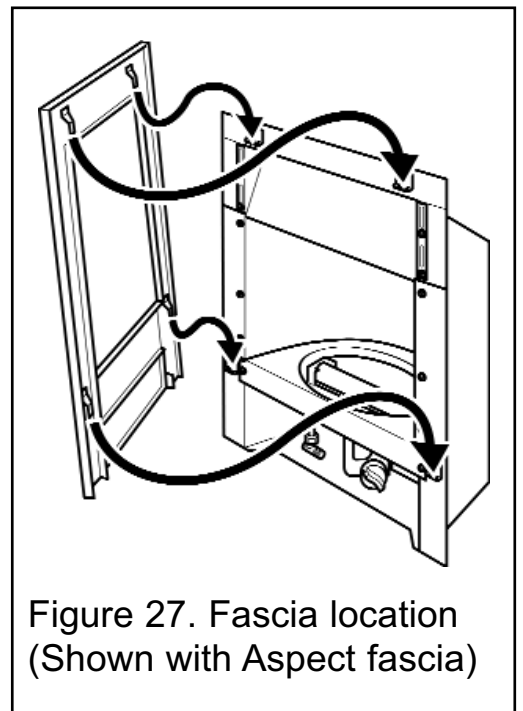

Figure 27. Fascia location
2. Carefully lift the fascia. Place the fascia against the fireplace front surface so that the four retaining plates at the back of the fascia are directly above the four retaining brackets of the hotbox. There are two at the top of the hotbox and two to the side of the burner module. Lower the fascia unit making sure that the retaining plates locate fully into the brackets on the hotbox (See figure 27).